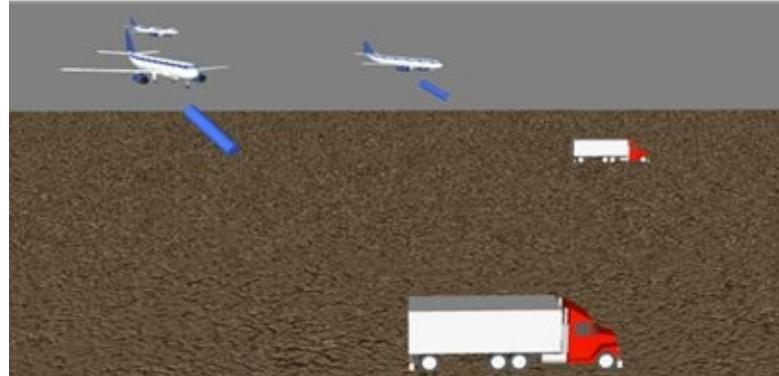

Figure 3.32 The modified statechart of the Bomber
- 71.** Modify the statechart of the Bomber agent, as shown in Figure 3.32. Draw a composite state around the *ToTarget* and *Away* states, and then add a transition triggered by the message "*You are destroyed*" leading to another final state.